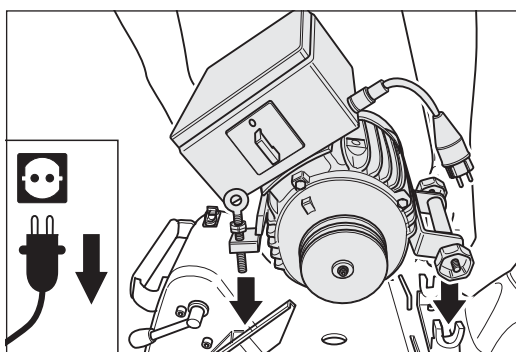
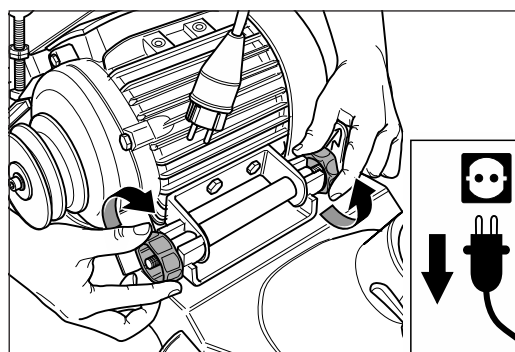

Fig. 61 Place the motor in the motor bearing bracket.
Fig. 62 Tighten the two motor nuts.
- 5 Place the motor in the motor bearing bracket (fig. 61) and tighten the two motor nuts **slightly** (fig. 62).
- 7 Tighten the two motor nuts (fig. 62).